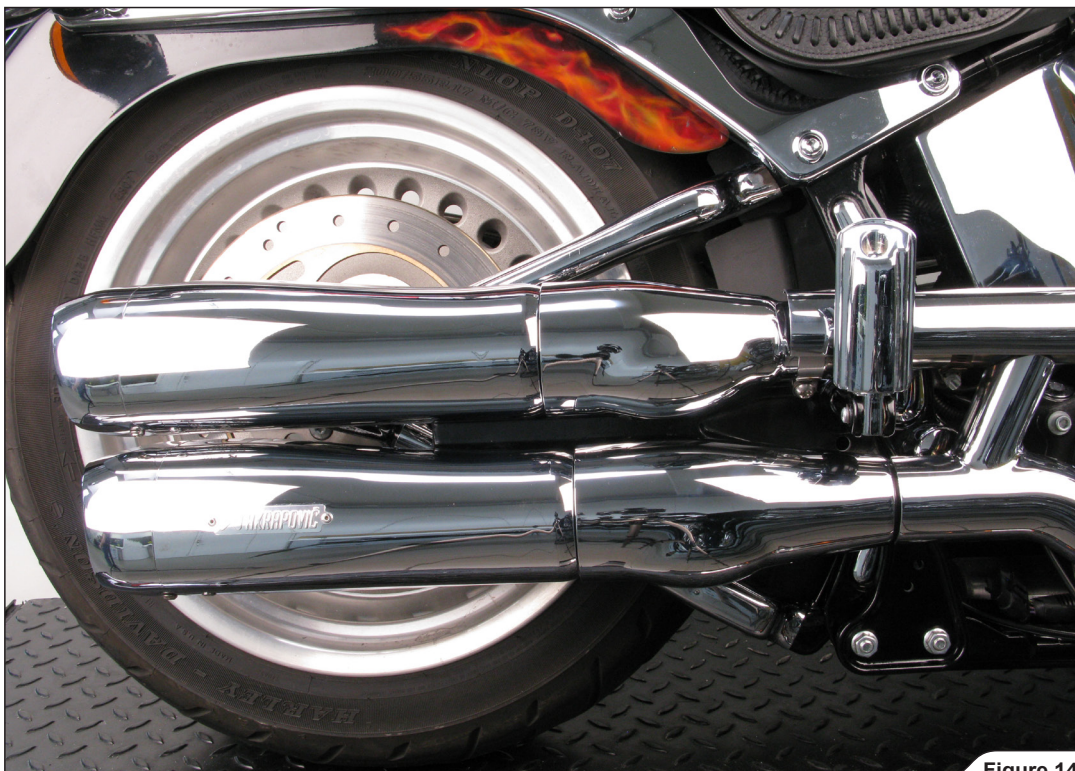

Figure 14
- Slide the assembled mufflers onto the original headers; rotate the asymmetrical link pipes, till perfect fit of mufflers and heat shields (Figure 14).